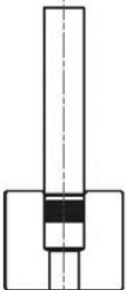

Fig. 3
- The pin can now be pressed in until the top of the pin is flush or within 0.3 mm with the top surface of the sleeve. Corresponding approximate values for stroke S, as well as the dimension X can be referred from the dimensional sheets (Fig. 3, 4 and 5).